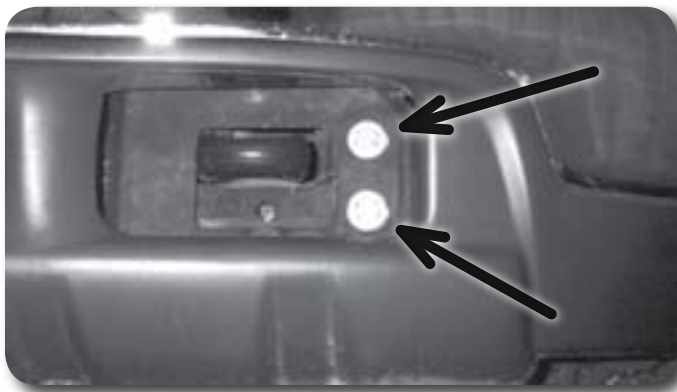

Figure 7
27. Remove the front bumper. Remove the four bolts (two on a side) that mount the bumper to the frame **Figure 7**. Remove the bumper from the vehicle.